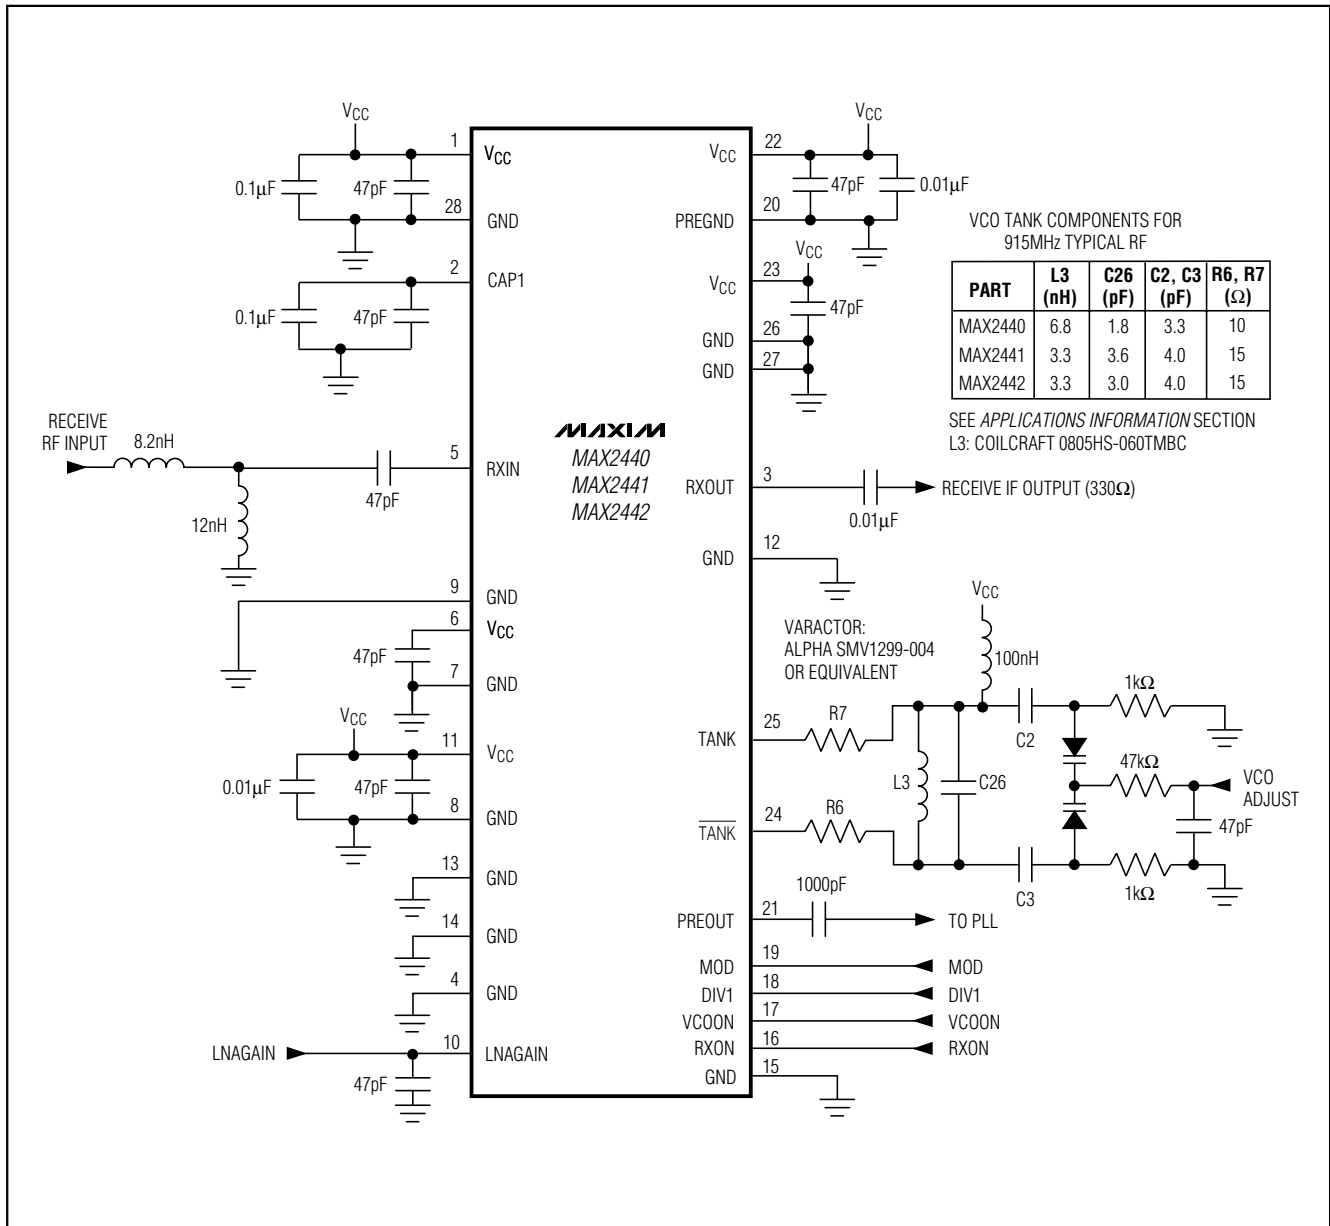

Figure 1. Typical Operating Circuit
**Note 10:** Refers to useable operating range. Tuning range of any given tank circuit design is typically much narrower (refer to Figure 1).
| 5           | RXIN            | Receiver RF Input, single-ended. The input match shown in Figure 1 maintains an input VSWR of better than 2:1 from 902MHz to 928MHz.  |